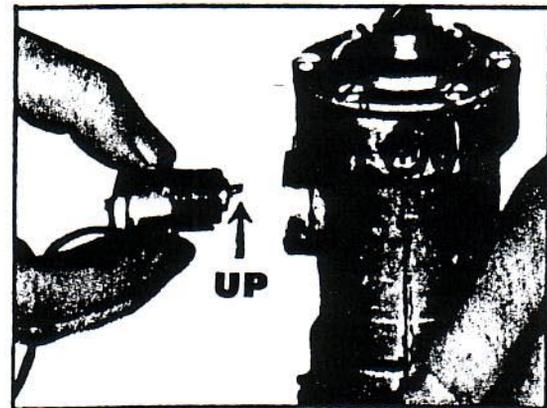

FIGURE 3
7. Trip actuator arm of switch upward (Fig. 3).
10. With gaskets (C) and (D) in place, press switch into pump body making certain the switch contacts engage with the contact sleeves. Due to alignment slot on switch, it can only be installed one way.